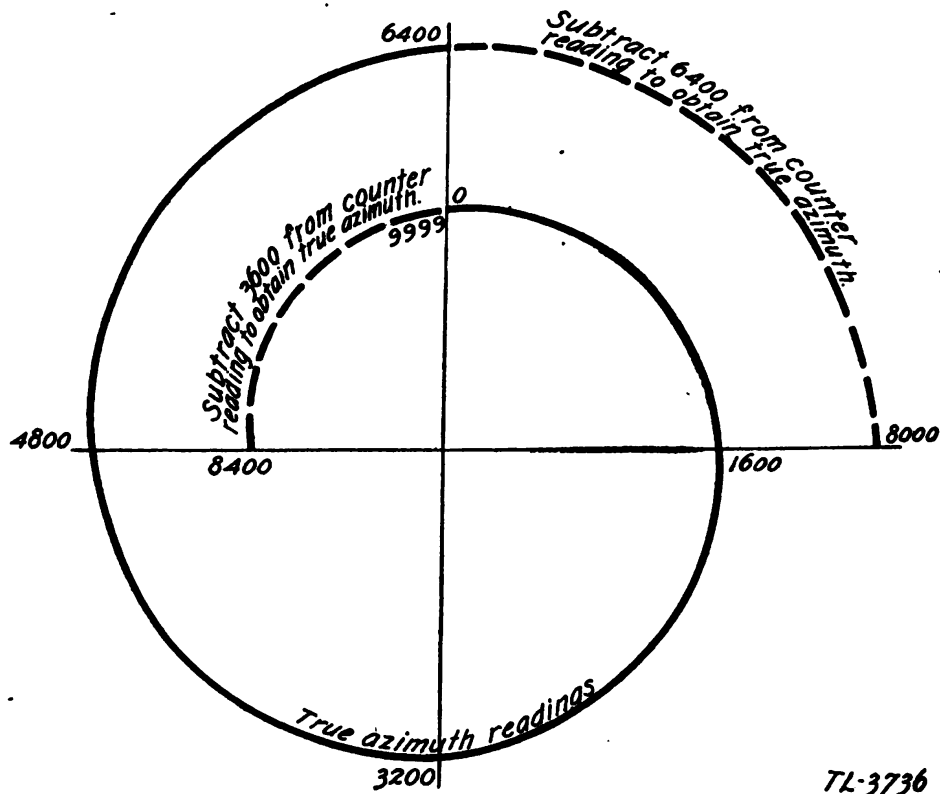

FIGURE 25.—Corrections for azimuth readings.
d. Counter mechanism.—(1) Two azimuth counters are driven by a gear on the shaft carrying the azimuth handwheel and worm gear. Both of the counters are Veeder type, reading from 0 to 9,999 and repeating. Under certain conditions the azimuth readings will be greater than 6,400, which will require corrections to determine the true azimuth angle. Figure 25 shows the actual readings under various conditions and the corrections to be applied thereto.
After orienting the instrument, any traversing beyond the indicated rotation in figure 25 will lead to needlessly complicated corrections. Range of traverse should not be beyond that indicated in this figure. One of the counters is placed inside the theodolite, illuminated by a lamp for photographing on each frame of the motion picture film. The units wheel of the counter has a spiral which in connection with a sawtooth scale indicates mils. The counter is read as described in paragraph 30d(3) through the window (fig. 4). The other counter is just below and to the left of the telescope eyepiece, for external reading in checking and orientation. The units drum of this counter has figures indicating mils and small divisions between units representing two-tenths of a mil.
(2) Two site counters are driven by a gear on the shaft carrying the site handwheel and worm gear. They are of the same type respectively as the internal and external azimuth counters, and are read in the same manner. Both the internal and external site counters are above the corresponding azimuth counters.
(3) A time counter placed between the internal azimuth and site counters is solenoid-operated, advancing one unit for each operation. The solenoid is operated indirectly by the time interval device at a frequency normally once per second. The time counter may be advanced manually using a small screw driver in the fitting by the